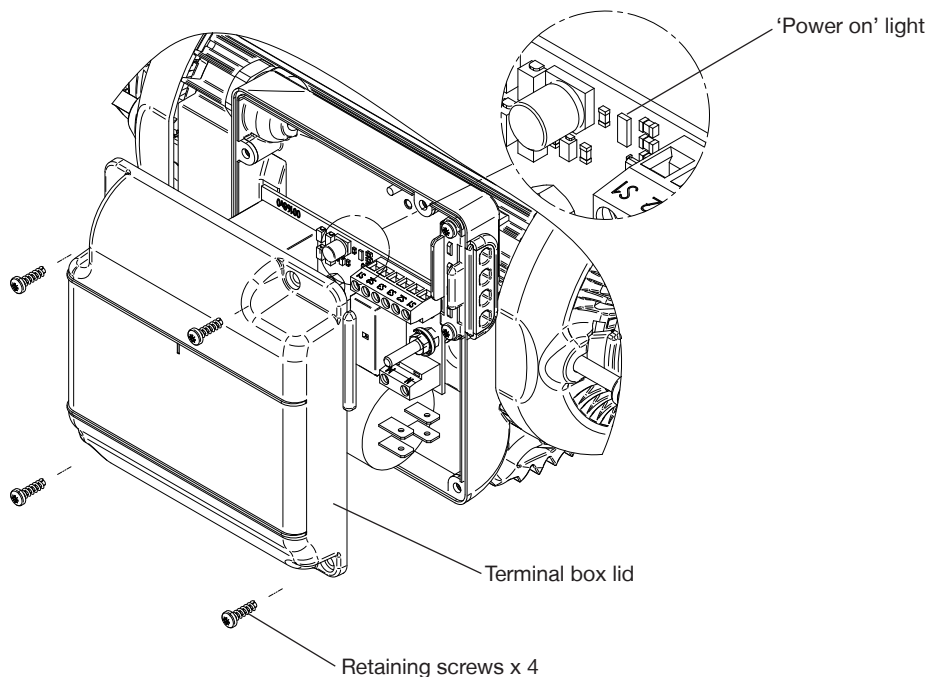

Fig. 16 Wiring removed for clarity
- Remove the four screws retaining the terminal box lid (Fig. 16).